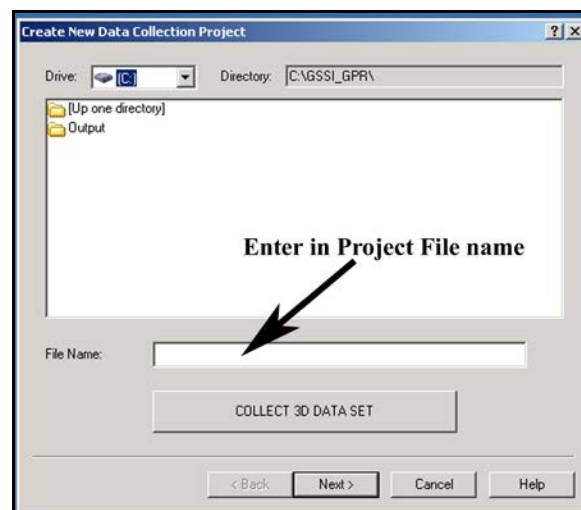

Figure 18: Project File Name box.
- 1 Create a new collection project by going to File > New or clicking the New Project button  on the collection controls bar. This will open a window with the heading Create New Data Collection Project (Figure 18).